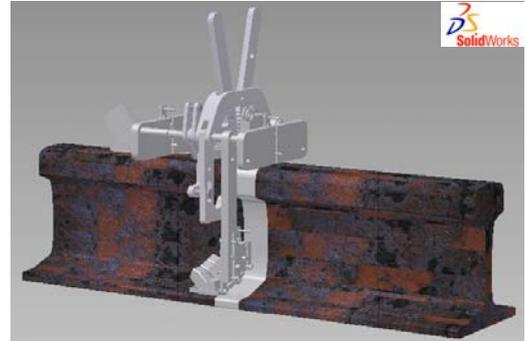

Figure 3 Concept drawing.
**System Design:** In order to meet the industrial requirements given above a commercially available ultrasonic phased array instrument was used together with the developed phased array probes that were designed and built after the initial modelling work. Figure 3 shows the concept drawing of the inspection tool.